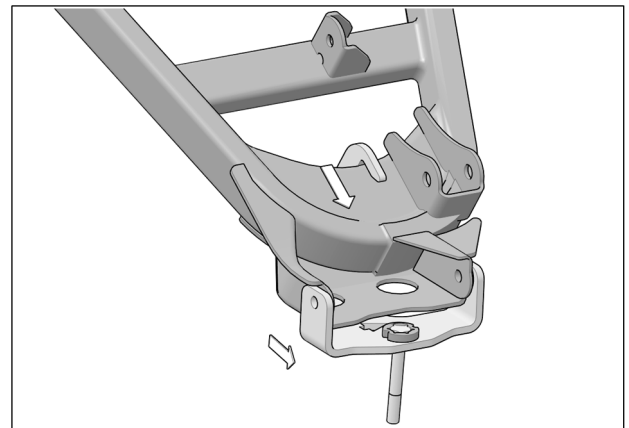

Fig. 8
7. Slide and hook the back end of the bracket on the suspension arm as shown on Fig. 8